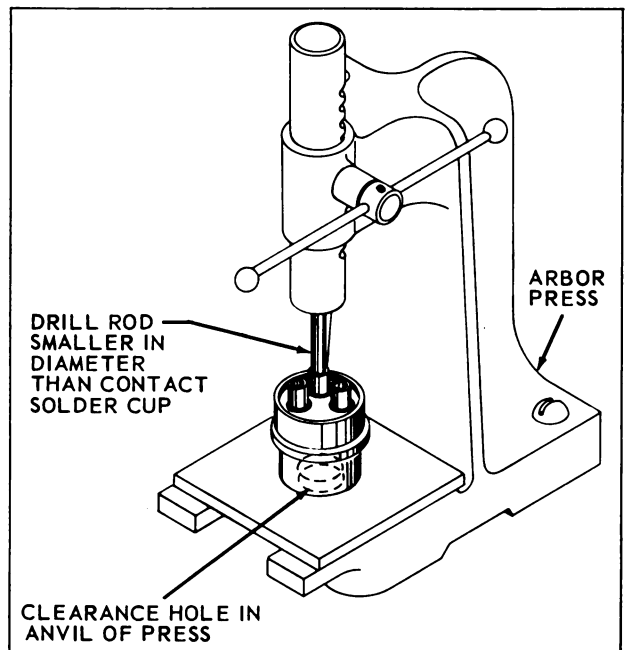

Figure 3-16. Removal of Contacts from Resilient Insert
c. Bendix and Cannon use some resilient inserts. Contacts are removed from these resilient inserts by pushing against the solder cup end with a round phenolic (bakelite) rod a little smaller in diameter than the solder cup. An arbor press, as shown in Figure 3-16, is helpful in removing large size contacts.